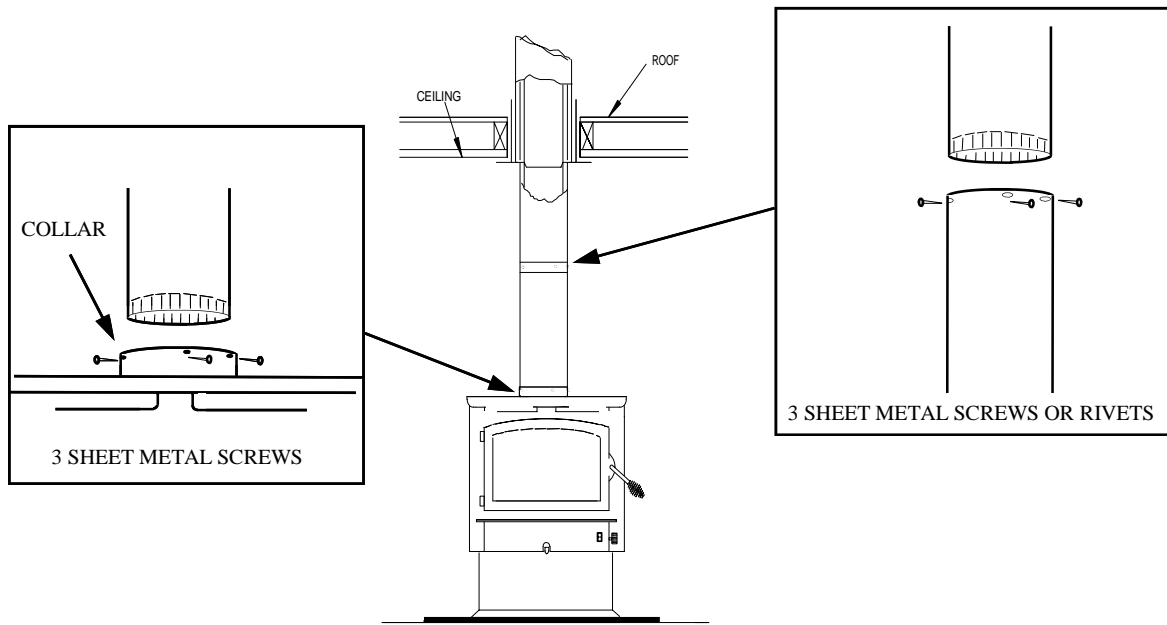

Figure 10
Now connect stove and ceiling support box using #24 ga. minimum blue or black steel connector pipe (**DO NOT USE GALVANIZED PIPE**). Connect each section so crimped end faces downward, and secure each section to each other using at least three (3) sheet metal screws or rivets. Also use three (3) sheet metal screws to fasten pipe to collar on heater. (See Figure 10. Page 15).
5. Connect chimney connector to tee-box using #24 ga. minimum blue or black steel connector pipe. DO NOT use galvanized pipe. Connect each section so crimped end faces downward, and secure each section to each other using three (3) sheet metal screws or rivets. (See Figure 10. Page 15).
- (c) Secure each section to each other using at least three (3) sheet metal screws or rivets (See Figure 10. Page 15).
- (d) Use three (3) sheet metal screws to fasten pipe to connector collar on heater. (See Figure 10. Page 15).